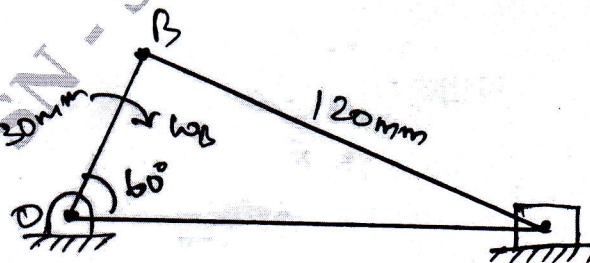

Fig Q4
- 4 In a slider crank mechanism the crank $OB = 30\text{mm}$ and the connecting rod $BC = 120\text{mm}$. The crank rotates at a uniform speed of 300rpm clockwise. For the crank position shown in Fig Q4, in which the crank is turned 60° . Find : i) Velocity of Piston C and angular velocity of connecting rod BC ii) Acceleration of piston C and angular acceleration of connecting rod BC.